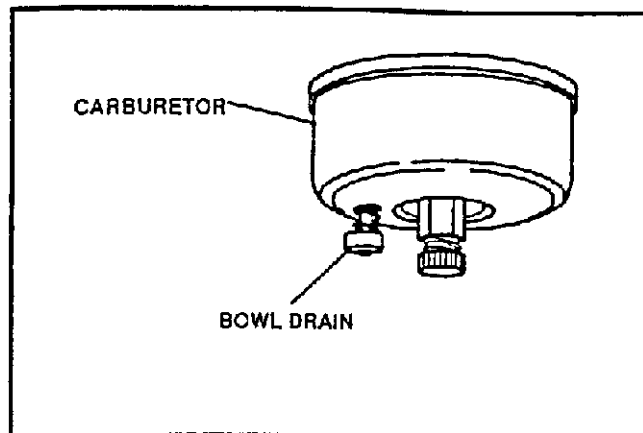

FIG. 1-STORAGE
- Drain the carburetor by pressing upward on the bowl drain (See FIG. 1-STORAGE), located below the carburetor cover.